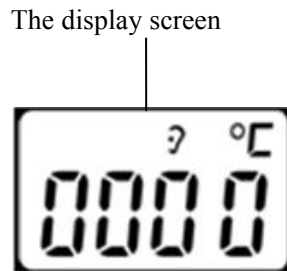

Figure 2.7B
2. When the screen shows as figure 2.7B and the temperature unit "°C" is blinking, the user can begin to take the measurement.